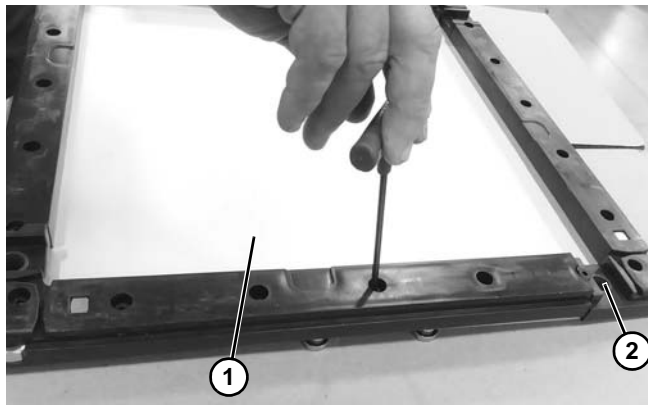

Figure 90
2. Remove corner skirt from top plate (**Figure 90, item 1**). Make sure not to lose sleeve (**Figure 90, item 2**) at the point where two corner skirts meet.